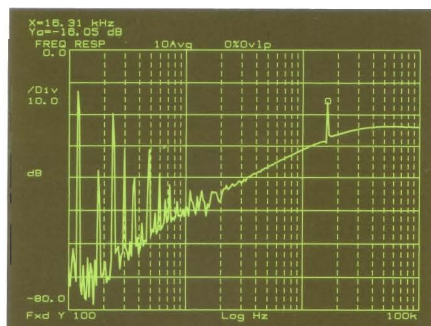

Figure 3-2
**9. Start** Press the yellow **START** key. The 100 Hz to 100 kHz frequency response will be displayed automatically. The result shown in Figure 3-2 is from the same crystal resonator used in the Linear Resolution example.